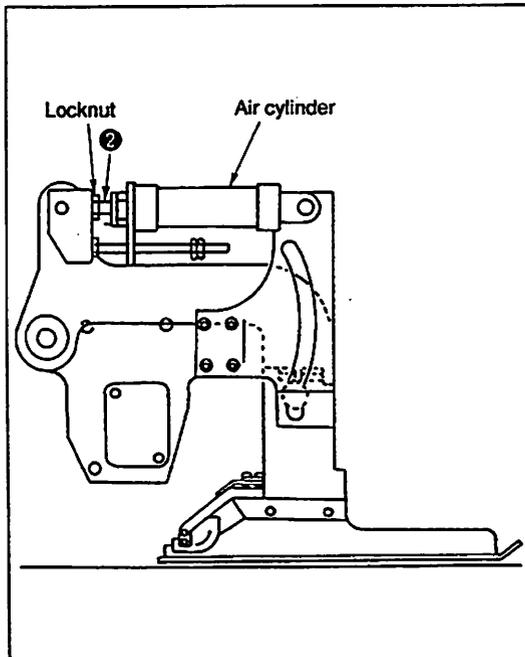

Fig. 37
3. Adjust the horizontalness of the binder first. Loosen screw ① which fixes the binder installing base. Then sewing the whole unit in the direction of the arrow centering the binder fulcrum shaft until the horizontalness of the binder is obtained. After the adjustment of the horizontalness of the binder, securely tighten screw ① .
4. Adjust so that a clearance of 1 mm is provided between the bottom face of the welt patch base plate and the surface of the sewing table by turning cylinder rod ② as shown in Fig. 37. Loosen the locknut, and turn cylinder rod ② in the direction which tightens it to lower the welt patch base plate, or in the direction which loosens it to raise the welt patch base plate. Adjust the clearance to 1 mm, then firmly tighten the locknut.